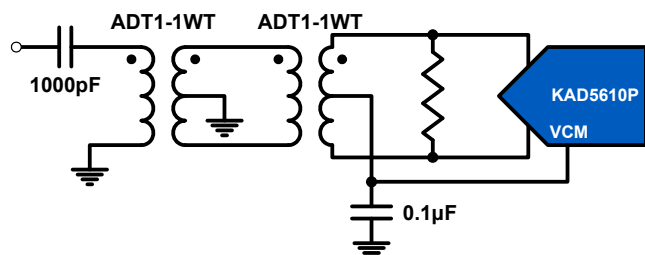

FIGURE 27. TRANSFORMER INPUT FOR GENERAL PURPOSE APPLICATIONS
Best performance is obtained when the analog inputs are driven differentially. The common-mode output voltage, VCM, should be used to properly bias the inputs as shown in Figures 27 through 29.
An RF transformer will give the best noise and distortion performance for wideband and/or high Intermediate Frequency (IF) inputs. Two different transformer input schemes are shown in Figures 27 and 28.